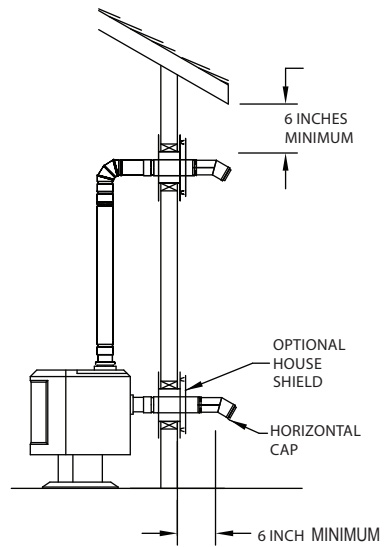

Figure 6
5. If the flue exit is on back of the stove, and a horizontal through-the-wall installation is desired (**Figure 6**):
B. Connect the Pipe Adapter to back of stove and attach sufficient pipe to penetrate Wall Thimble and extend at least 6” beyond the exterior wall. You may install the optional House Shield as shown in **Figure 6**. The House Shield is used to protect the exterior wall from vent discharge. Attach a Square or Round Horizontal Cap. The Round Horizontal